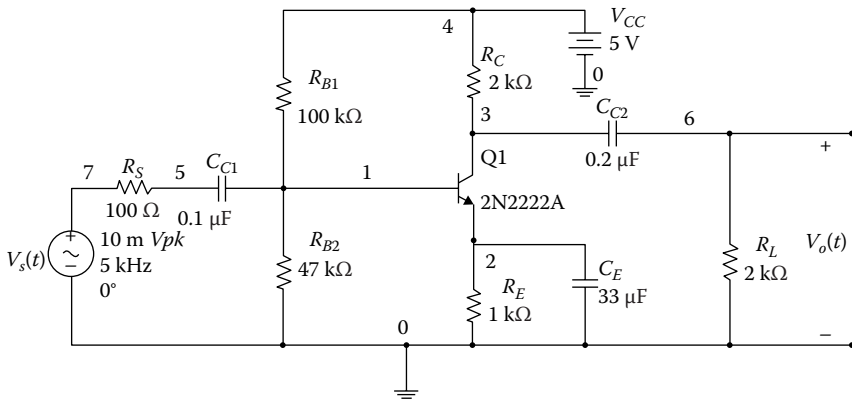

FIGURE P7.9
- Problem 7.9** Use the Analog Discovery board to determine (1) the magnitude response of the circuit shown in Figure P7.9, (2) midband gain, (3) low cut-off frequency, (4) high cut-off frequency, and (5) bandwidth of the amplifier.